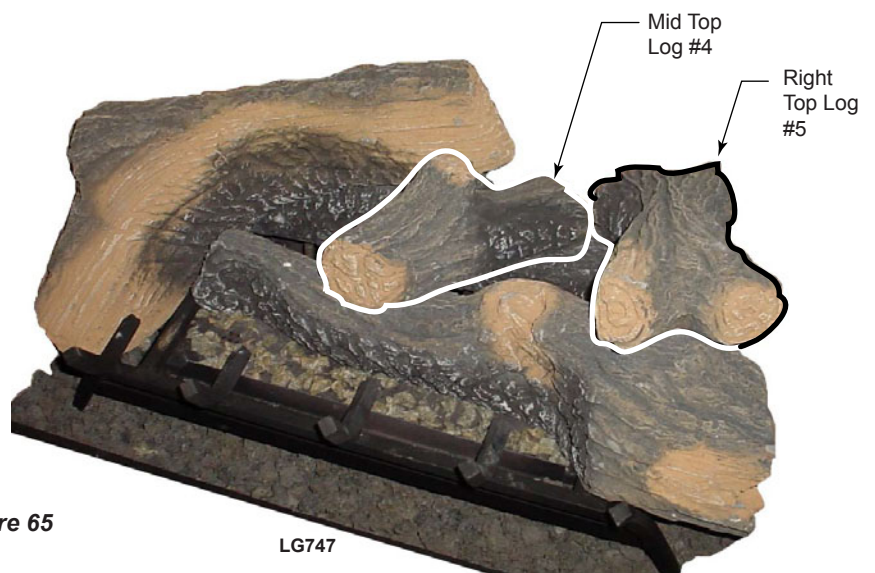

Figure 65
- Place Mid Top Log #4 by matching the two notches on the bottom of this log with the two protrusions on log #1 & 2. This log, when seated, fits in the middle above logs 1 & 2. *Figure 65*
- Place Right Top Log #5 by matching the two notches on the bottom of this log with the two protrusions on log #1 & 2. This log, when seated, is positioned toward the right. *Figure 65*